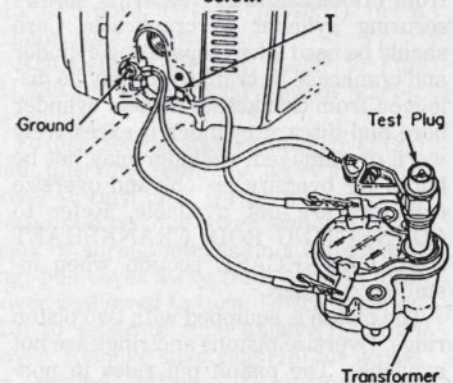

Fig. HL284 - A test plug may be used to determine if ignition system is operating correctly. See text.
The ignition system is serviced by replacing the spark plug, ignition module, high tension transformer or wires with new components. The ignition system can be checked using a test plug or spark plug with the side electrode removed as follows: Remove the high tension transformer and install the test plug and connect test wires as shown in Fig. HL284. Test wire should be inserted behind receptacle tab (T). Push ignition switch to run position and briskly operate starter. If test plug sparks then ignition system is operating satisfactorily and the spark plug should be checked. If no spark is seen at test plug then another transformer should be checked. If no spark is seen when another trans-